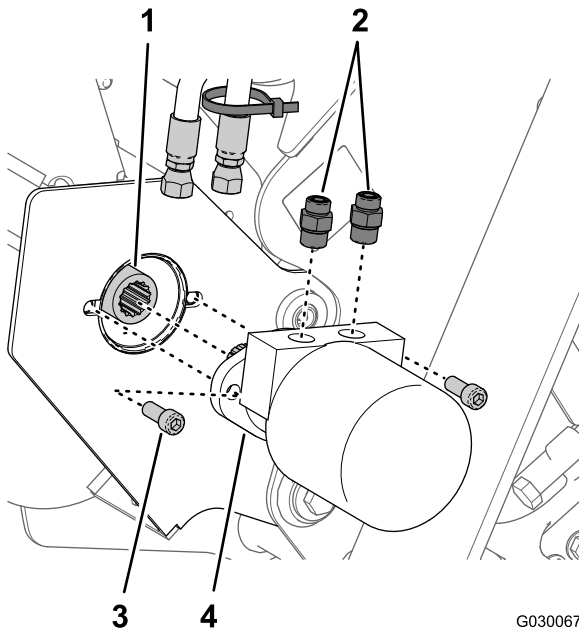

Figure 3
4. Remove the 2 hydraulic hoses from the straight hydraulic fitting in the hydraulic motor (Figure 3).
5. Remove the 2 socket-head bolts (1/2 x 1-1/4 inches) that secure the hydraulic motor for the trencher drive to the head of the trencher, and remove the hydraulic motor (Figure 3).
7. Remove the 2 straight hydraulic fittings from the old hydraulic motor (Figure 3).
8. Remove the coupler from the trencher-drive shaft (Figure 3).